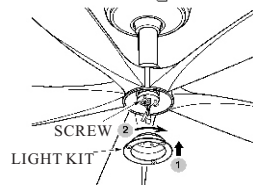
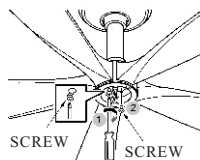

FIG.13
FIG. 14
2. Attach the light kit adapter to fan adapter by placing key slots over the 2 loosened screws, turn the light kit adapter until it get the narrow end of key slots and have the round hole align with the round hole on fan adapter. (see fig.13) Tighten the screws. (see fig.14)